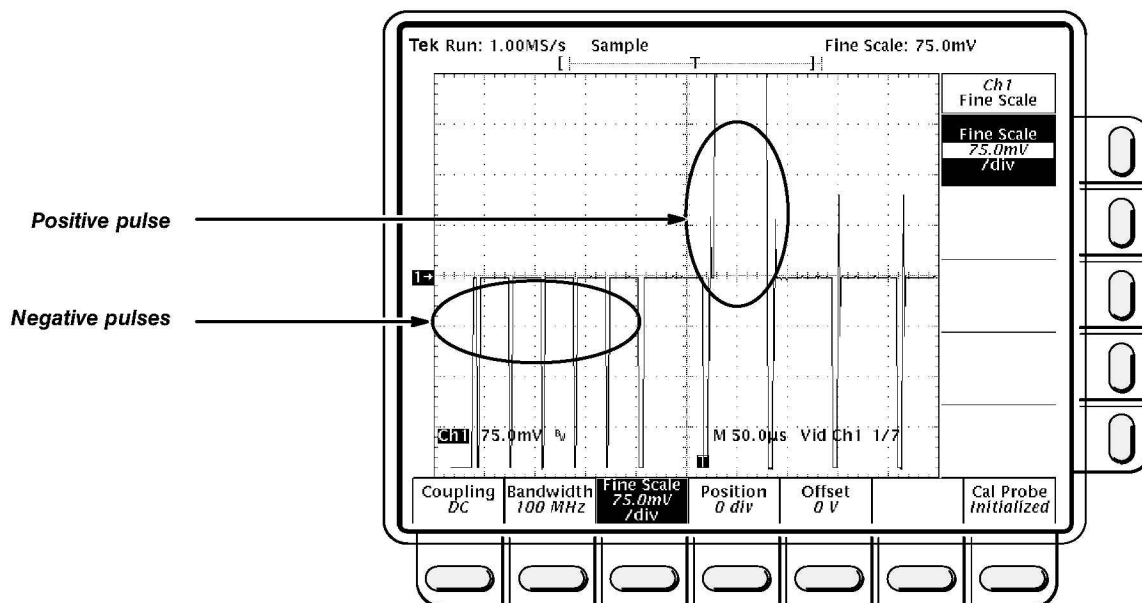

Figure 4-30: Triggered Signal Range Test — 75 mV
- o. CONFIRM that the **TRIG'D** LED stays lit and that the waveform on screen is stable. Stable means the waveform does not move horizontally or vertically. Also, CONFIRM that the waveform on the screen has one positive pulse and a number of negative pulses (see Figure 4-30).